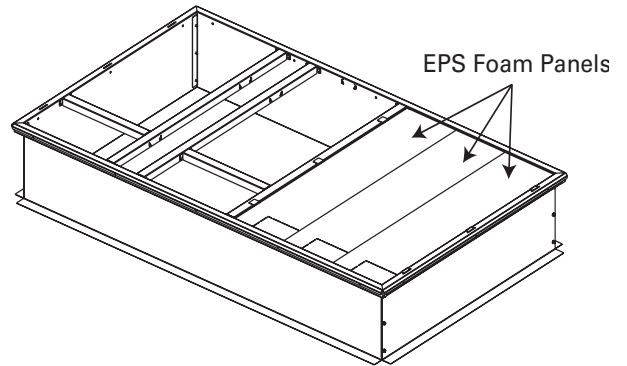

Figure 11. Step four
7. Insert the three (3) insulation supports between the left end and the closest long duct support, being sure to insert the tabs into the slots in the top of the end piece. See Figure 11, p. 8.